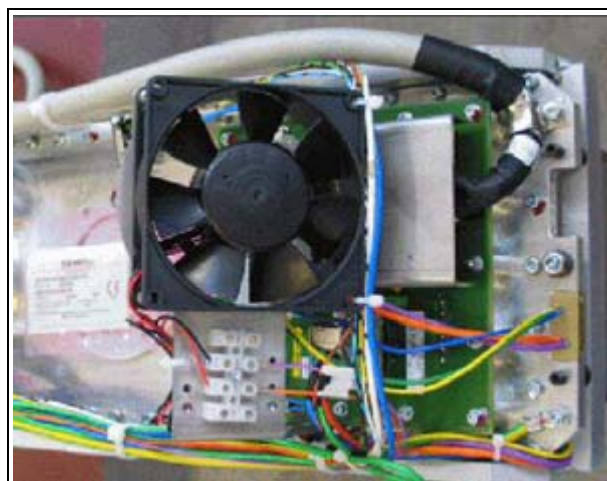

Fig. 11: tank_connection
5. Loosen all plugs, screw and cable connections from the single tank (Fig. 11 / p. 36).
6. Remove the bracket with fan (Fig. 11 / p. 36).
6. Install the bracket with fan (Fig. 11 / p. 36).
7. Connect all cables (Fig. 11 / p. 36).
8. Tighten cable connections X7 and X9 (Fig. 11 / p. 36) with a torque of 4.8 Nm.
3. Remove the fan (Fig. 11 / p. 36).